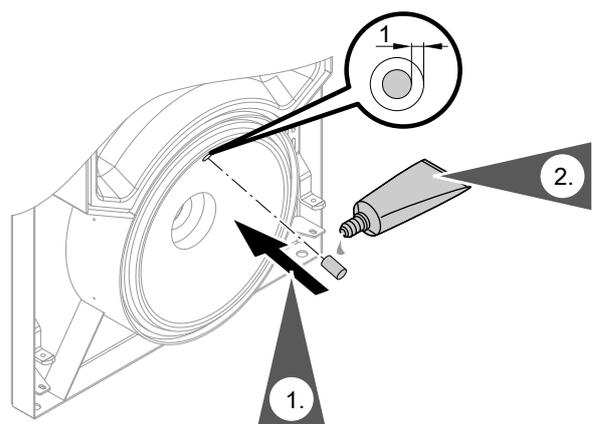

Fig. 6
We recommend positioning the boiler on **adjustable anti-vibration feet** (C); see Fig. 6. Insert adjustable feet into the base rails from below.